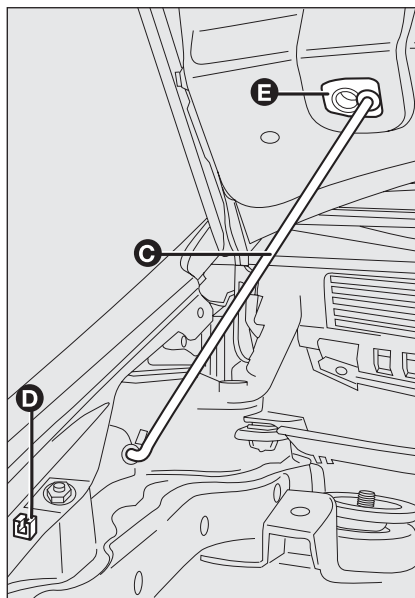

fig. 107
- ☐ lift the bonnet and at the same time release the rod **C**-**fig. 107** from the catch, then fit end **D** of the rod into the bonnet recess **E**.
CLOSING fig. 107